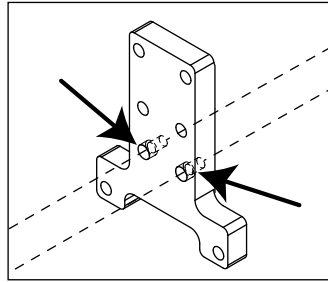
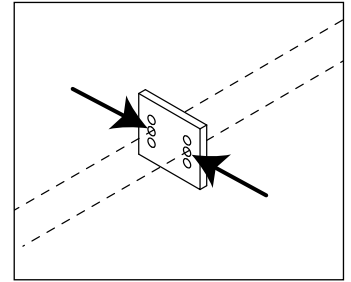

Figure 2, Bottom Mounting Holes (item N)
Figure 3, Middle Bolt Holes (item F)
1. Place lockwashers (G) on capscrews (H).
2. Insert ends of capscrews (H) through the **middle** pair of bolt holes in the spring washer plate (F). See Figure 3.
3. Slide capscrews (H) through holes in safety spring (J).
**IMPORTANT:** Safety spring (J) must be oriented so that the “U” shaped grooves face inward (**toward** the puller) when parts are assembled.
4. Place a spacer (E) on each capscrew (H).
5. While holding all parts together as an assembly, position the safety spring (J) in front of the mounting bracket (K).
6. Thread ends of capscrews (H) into welded nuts on mounting bracket (K).
7. Using a 5/16 inch Allen wrench, torque each capscrew (H) to 180 in-lbs [20,3 Nm].
8. Affix safety warning decal (I) to safety spring (J).
1. Using a 3/4 inch wrench, remove the four bolts (L) securing the mounting bracket (N) to the puller.
2. Slide the two capscrews (O) through the **bottom** pair of mounting holes in mounting bracket (N). See Figure 2.
**IMPORTANT:** To ensure adequate screw length, be sure that capscrews (O) are inserted on the counterbored side of mounting bracket (N).
3. Slide the two capscrews (O) through the bolt holes in the safety spring (J) and the **middle** pair of bolt holes in the spring washer plate (F). See Figure 3.
4. Install a lockwasher (G) and nut (M) on each capscrew (O). Using a 9/16 inch open-end wrench and 5/16 inch Allen wrench, torque each nut (M) and capscrew (O) to 180 in-lbs [20,3 Nm].
5. Using a 3/4 inch open-end wrench, secure the mounting bracket (N) to the puller by reinstalling the four bolts (L). Torque to 350 in-lbs [39,5 Nm].
6. Affix safety warning decal (I) to safety spring (J).